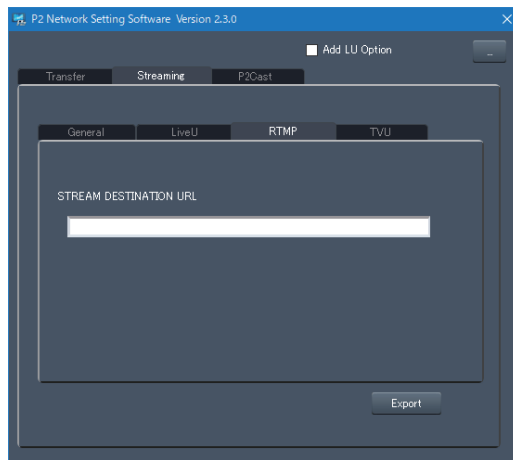

Fig. 1
- 1 Start the P2 Network Setting software. (Fig. 1)